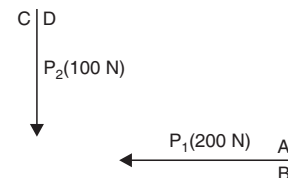

Fig. 2.1
**Bow's notation.** It is a method of designating a force by writing two capital letters one on either side of the force as shown in Fig. 2.1, where force  $P_1$  (200 N) is represented by  $AB$  and force  $P_2$  (100 N) by  $CD$ .